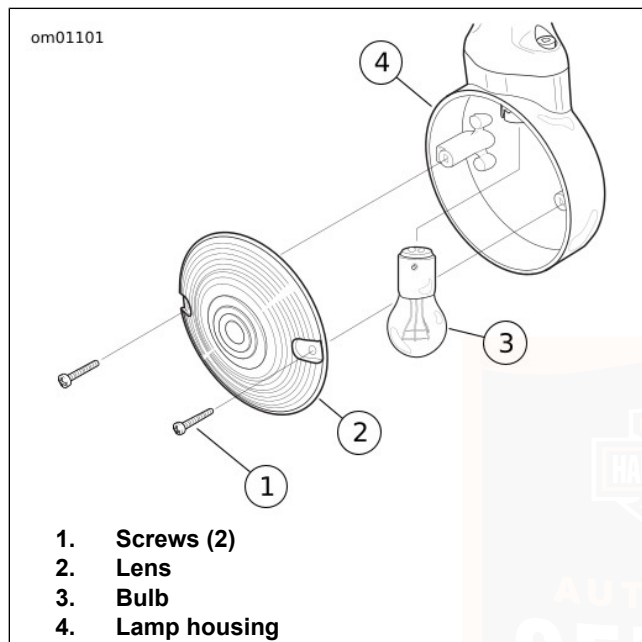

Figure 45. Turn Signal Lamp Assembly: Flat Lens Style
1. See Figure 45. Remove two screws to release lens from lamp housing.